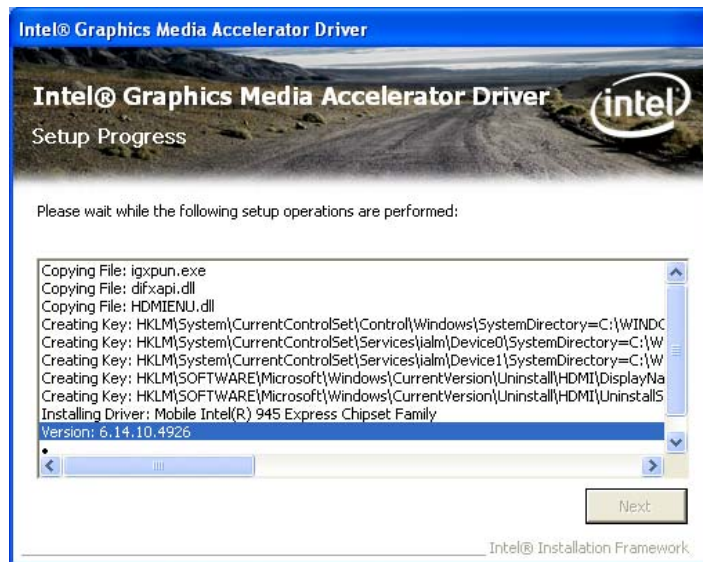

Figure 7-13: VGA Driver Setup Operations
Step 12: Setup Operations are performed as shown in **Figure 7-13**.